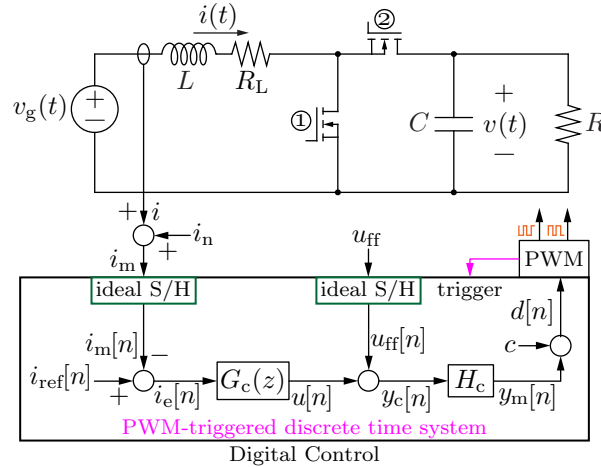

Figure 1: Boost converter with digital current control.
**Problem 1 [Modeling the Digital Controller]:** In this problem we will include the effects of the digital control loop. Modify your switched simulation in HW 5 to match that in Fig. 1. The “ideal S/H” blocks indicate a sample-and-hold operation with infinite amplitude resolution and we assume the digital system can measure  $i_m$  and  $u_{ff}$  directly. In other words, we neglect the sensing path details and finite number of bits encountered in a real system.